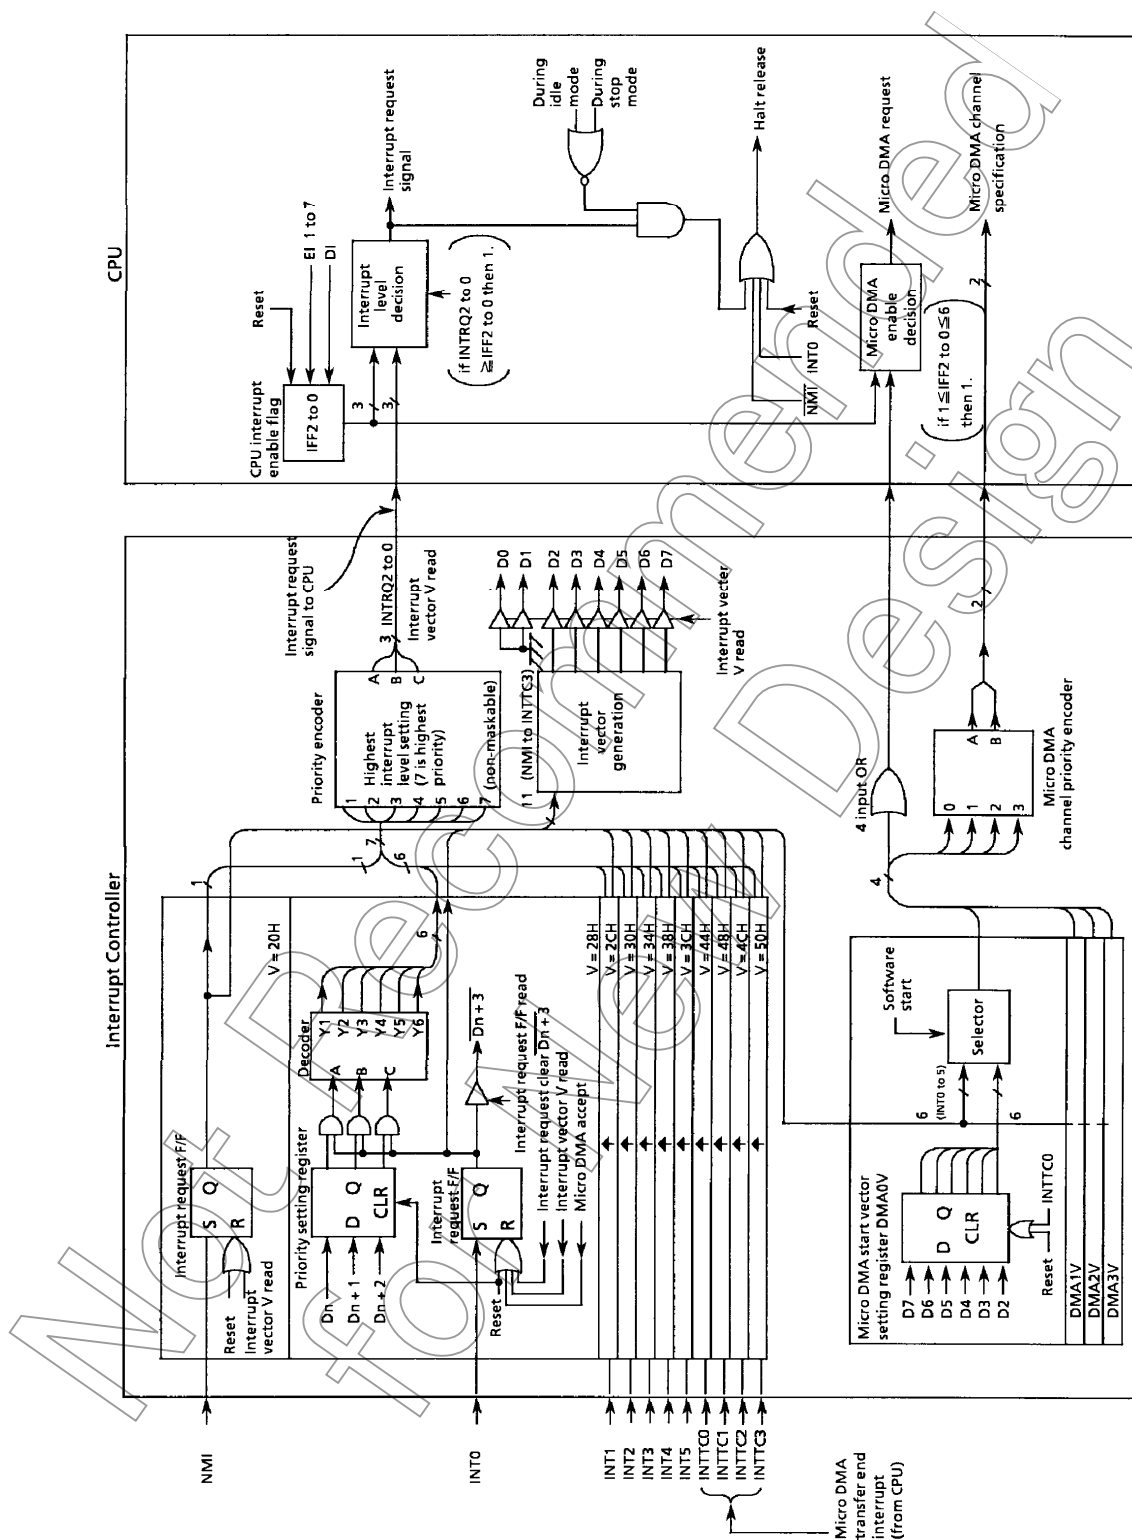

Figure 3.3 (4) Interrupt Controller Block Diagram
Figure 3.3(5) shows the interrupt priority setting registers. The interrupt request level setting bits <IxxM2 to 0> are provided for each 10 interrupt channels (INT0 to 5, INTTC0 to 3). Interrupt levels to be set are from 1 to 6. Writing 0 or 7 as the interrupt priority disables the corresponding interrupt request. The priority of the non-maskable interrupt (NMI pin) is fixed to 7. If interrupt requests with the same interrupt level are generated simultaneously, interrupts are accepted in accordance with the default priority.